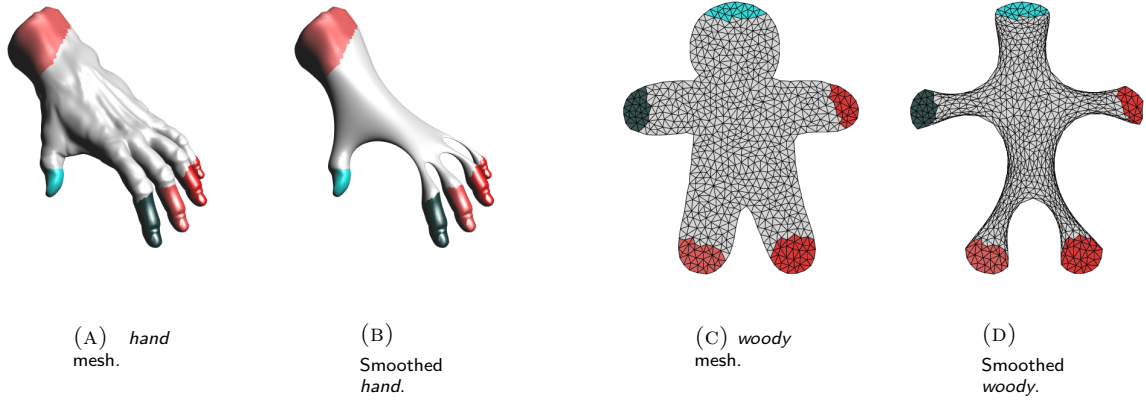

FIGURE 2. Step 1: Removal of high-frequency details.
**1.1. Selecting the handles.** A minimal, lasso-based interface for selecting vertices has been implemented for you. To use it, enable the `SELECT` mouse mode from the menu (or hit 'S'), click somewhere **on** the mesh and drag with your mouse to draw a stroke around the area of the mesh you want to select as a handle. The vertices inside the stroked region are saved in the `selected_v` variable. You have the options to: (a) accept the selected vertices as a new handle region (only if the vertices are not assigned to a handle already) by hitting the relevant button on the menu or key 'A' (Fig. 2(a)), (b) discard the selection and make a new one by drawing another stroke somewhere on the mesh. Once a selection is accepted, you can add additional handles by drawing more strokes.
This optimization will produce a mesh similar to the one in Figure 2. Note that the part of the surface that we want to deform is now free of high-frequency details. We call this mesh  $\mathcal{B}$ .